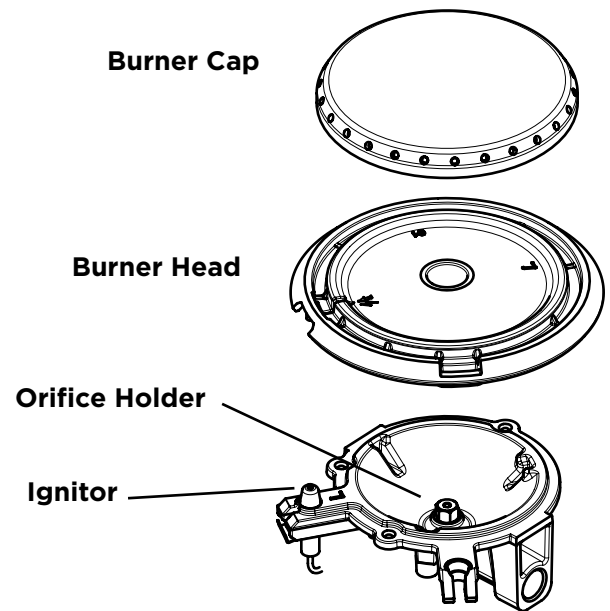

Figure 16: Removeable burner components
1. Remove the burner cap and burner head (see Figure 16). Clean the cap and head with hot soapy water and dry thoroughly.